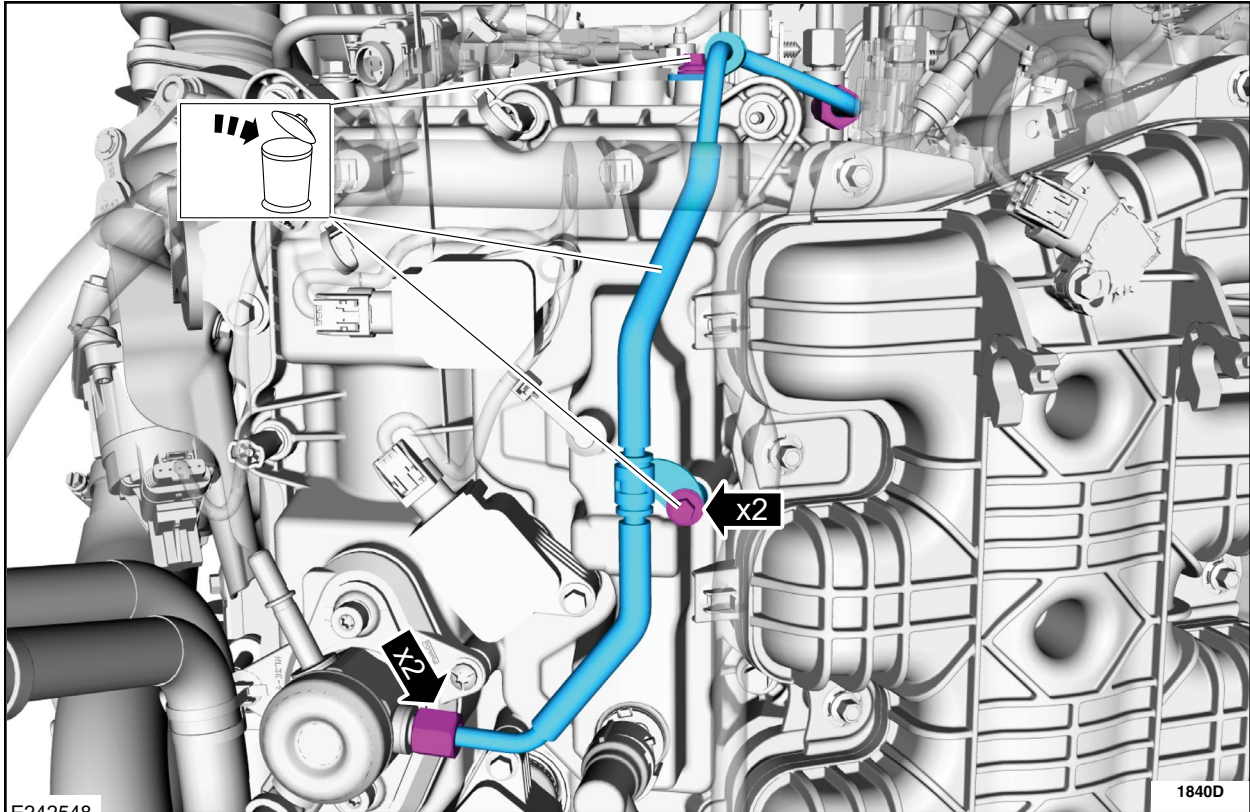

FIGURE 4
7. Remove and discard the fuel tube retaining bolts and disconnect the fuel tube flare nuts. Remove and discard the high-pressure fuel tube. See Figure 4.